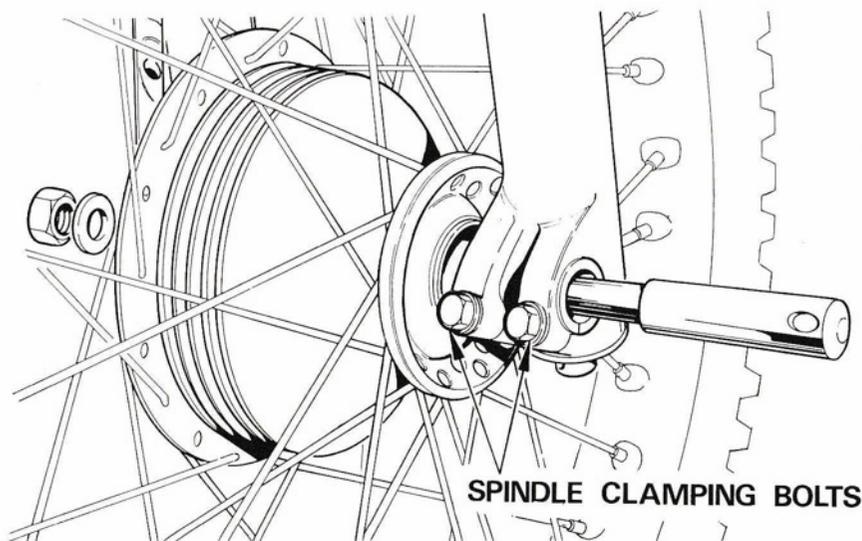

Fig. 50 Removing the front wheel axle.
- 5 Insert a tommy bar through the drilling at the left end of the axle and pull the axle out (see Fig. 50). If the axle proves rather tight, it can be tapped loose with a hide hammer or a soft drift.